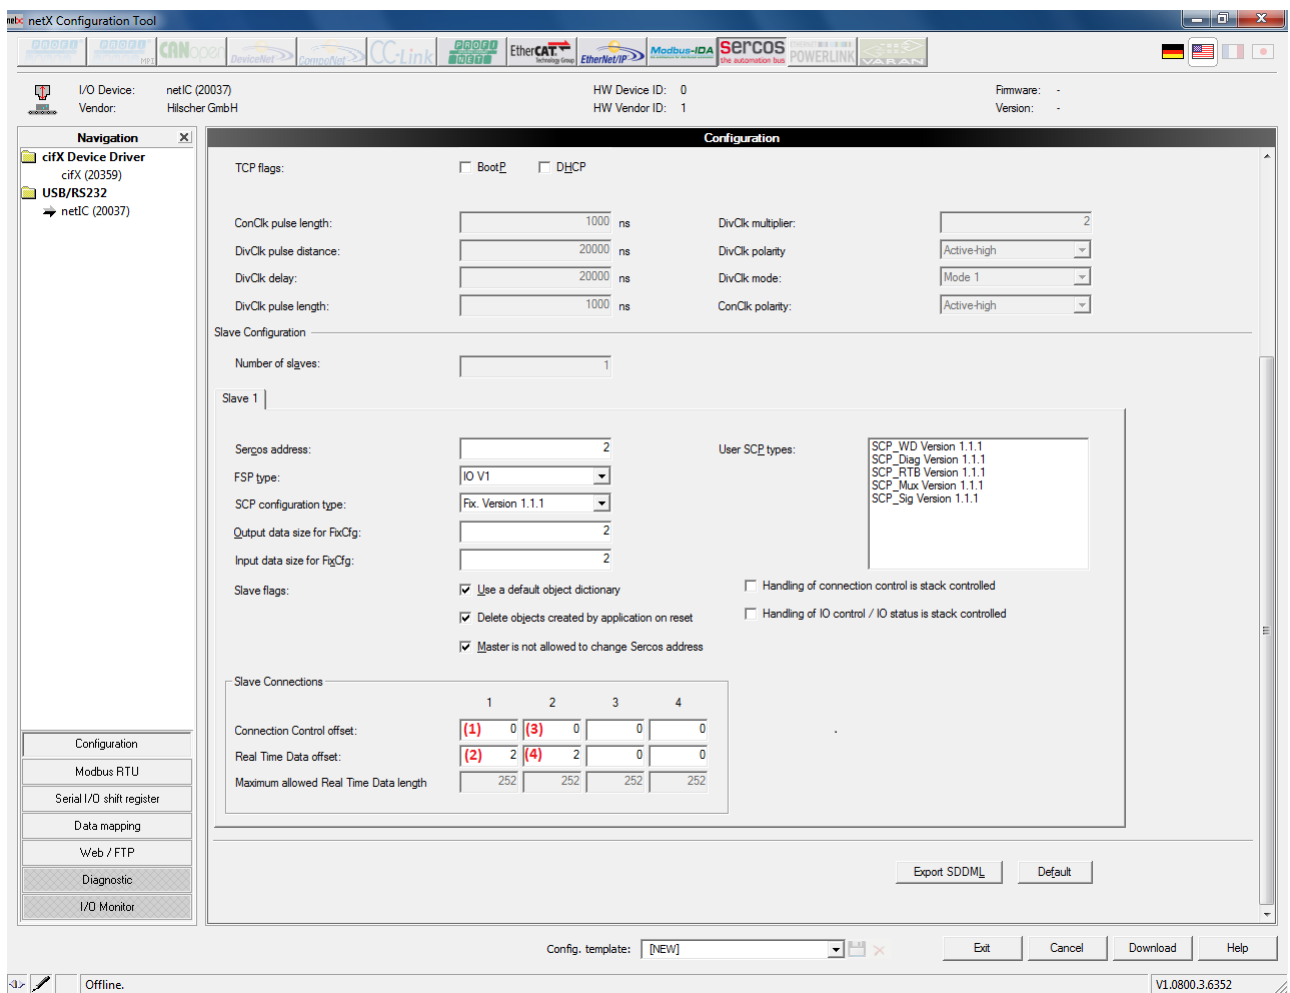

Figure 82: Screen “Configuration“ of the netX Configuration Tool (only lower part shown)
- In pane “Slave Connections” set each value at Real Time Data Process Image Offset to 2, see Figure 82: Screen “Configuration” of the netX Configuration Tool (only lower part shown)
You can comfortably adjust these parameters using the netX Configuration Tool. Here the parameters are called *Connection Control Offset* (①,③), *Real Time Data Process Image Offset* (②,④) and *Real Time Data Maximum Length* (⑤,⑥). (The position numbers relate to *Figure 82* on page 196.)